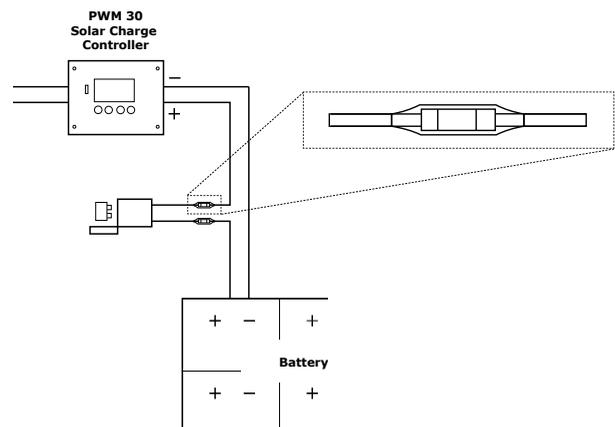

FIGURE 4-E
4. Strip the fuse holder cable and positive cable from solar charge controller as shown in Fig 4-F
6. Insert the fuse holder and solar charge controller stripped cable ends into the butt splice as shown in Fig 4-G
8. Thread the heat-shrink over the butt splice as shown in Fig 4-H
9. Use the heat gun to shrink the heat shrink over the butt splice as shown in Fig 4-I